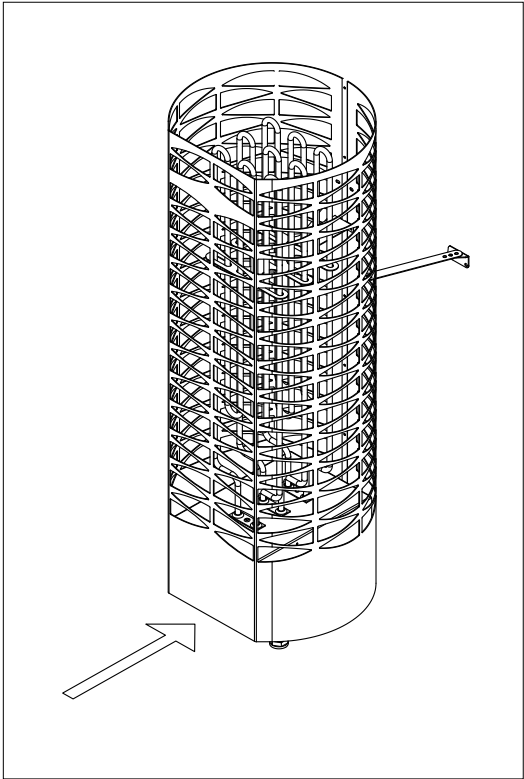

Figure 7. Location of the main switch
- 10. Ensure that the main switch (I/O) of the heater is in the O position. See Figure 7